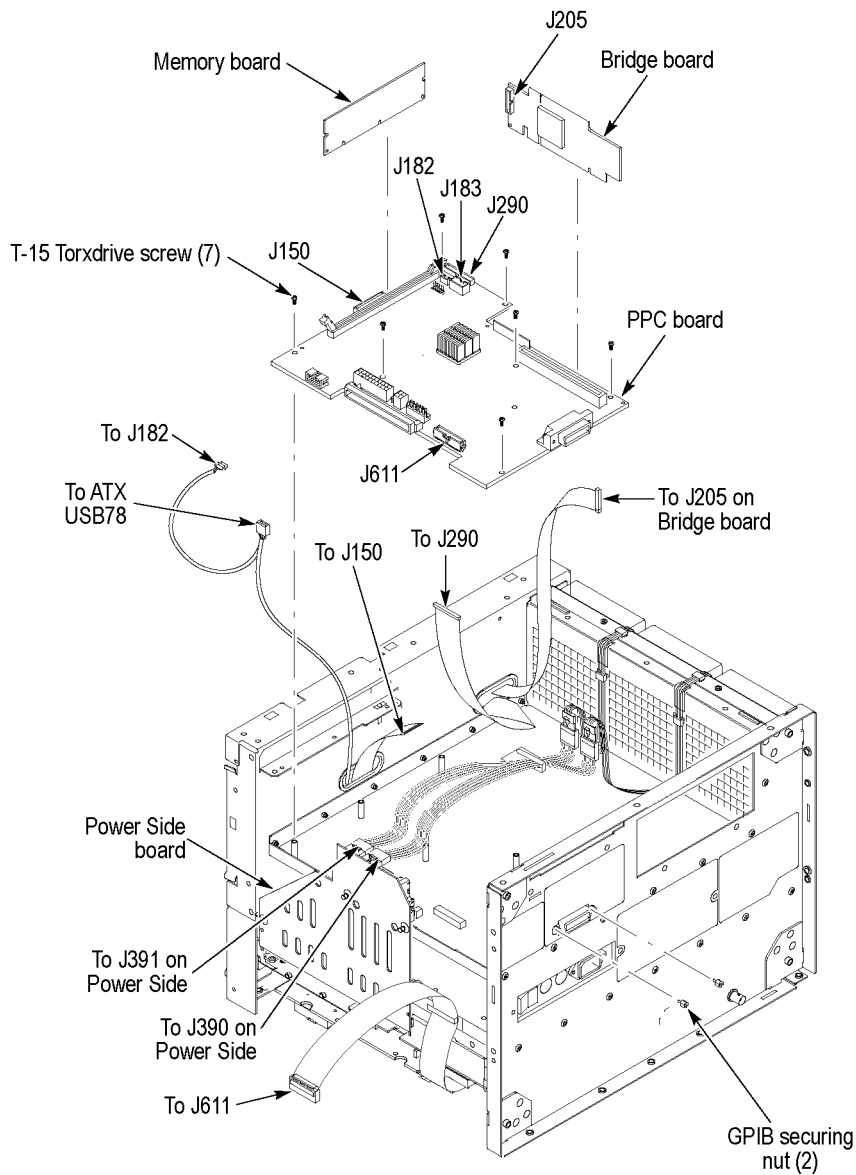

Figure 15: Power PC board removal
2. *To remove the Power PC board:* (See Figure 15.)